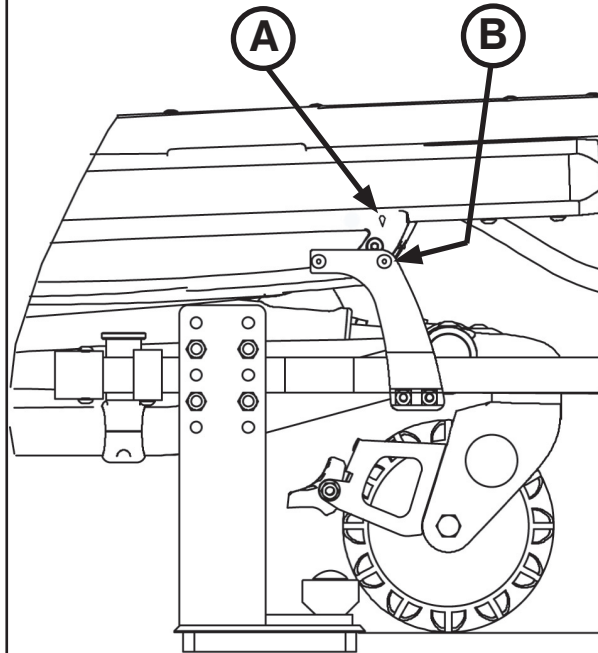

Figure 10: Cot Engaging Cot Fastener
6. Adjust the shut-off bracket along the rail clamp until the “diamond” (A) on the sensor housing is lined up with the pop rivet head (B) as shown in Figure 10.